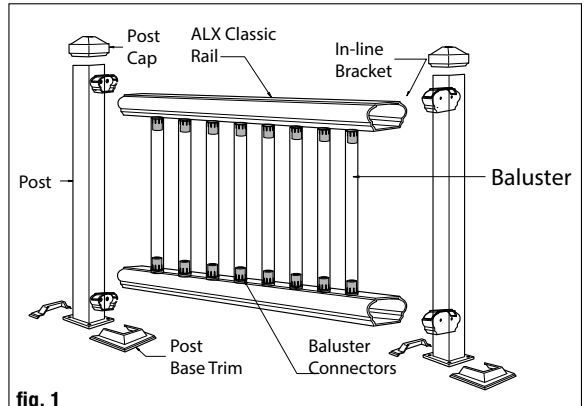

fig. 1
Step 6 Measure the distance between installed posts, including the pre-attached rail brackets to determine the length of the top and bottom rails (fig. 1). Position rail adjacent to installed posts. The distance between the post and the first baluster should be less than 4" and equal on both ends. Mark the length on top and bottom rails. Trim the top and bottom rails to length.